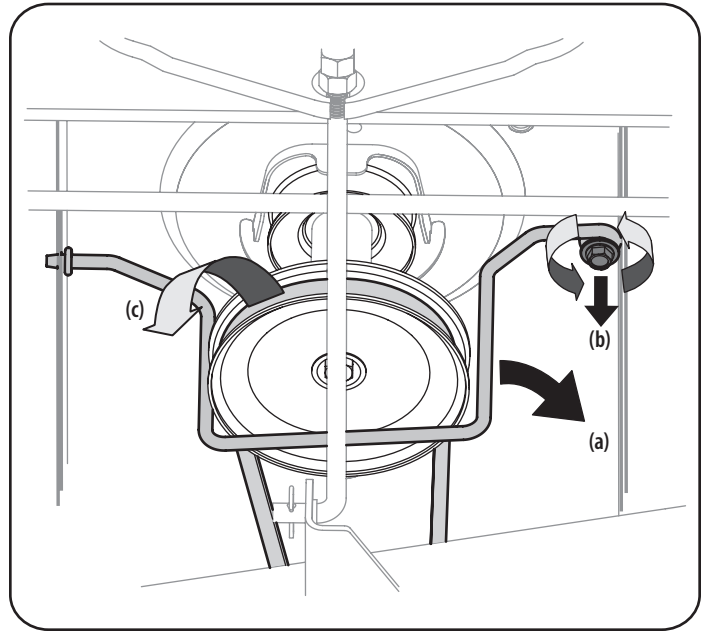

Figure 25
- Remove the belt-keeper rod (a), from around the tractor's engine pulley, by removing the self-tapping screw (b) that secures it. See Figure 25.
- Remove the belt (c) from around the tractor's engine pulley and idler pulley(s). See Figure 25.